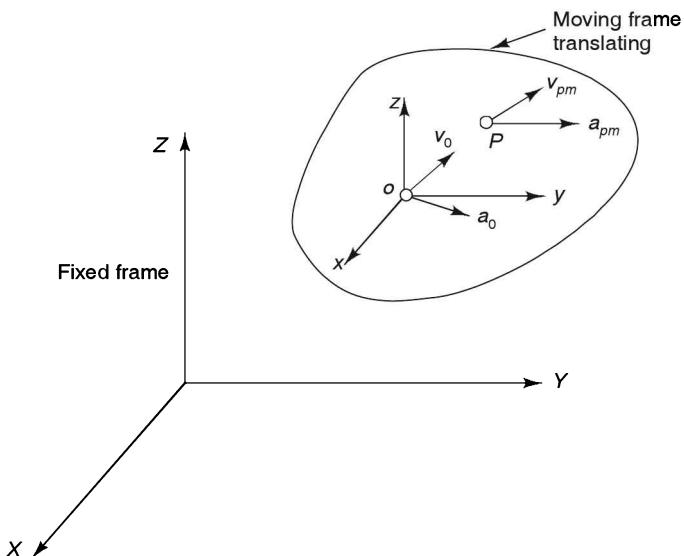

FIGURE 13.2 Moving frame translating.
- (b) *Moving frame is translating with respect to fixed frame.* A moving frame of reference x , y and z is translating with respect to a fixed frame X , Y , Z as shown in Figure 13.2. If the velocity of the moving frame is v_0 and the velocity of a point P with respect to the moving frame is v_{pm} , the velocity of the point with respect to fixed frame can be given as